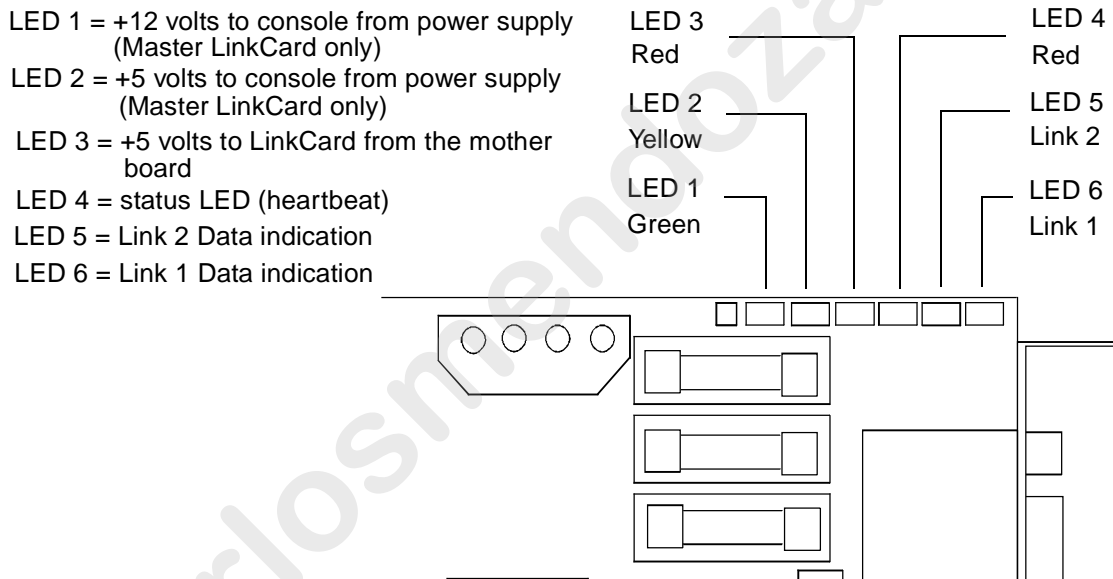

Figure A.2 LinkCard LEDs
2. Turn on the computer and start *Status Cue for Windows*. Observe the LinkCard LEDs. Refer to Figure A.2
3. Observe the LinkCard's LEDs. Refer to Figure A.2 for location information
The LinkCard has eight fuses located along the right side of the card. Refer to Figure A.2. Six fuses protect the two data links to the fixtures. Two fuses protect +5 and +12 volts to the Console.